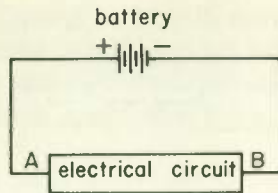
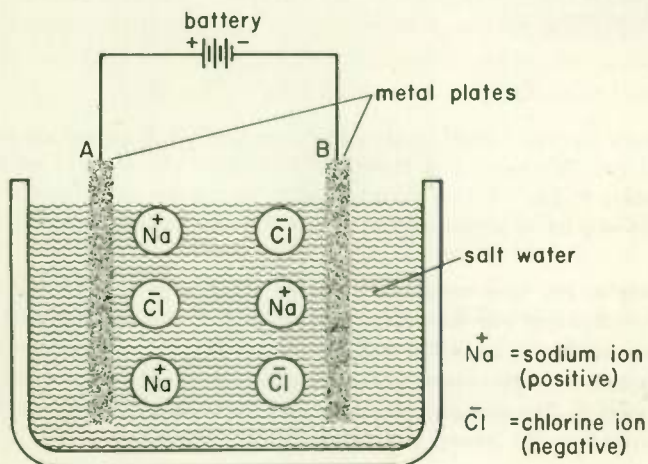

Fig. 14
Fig. 15
- Figure 14 shows a battery furnishing current to an electrical circuit. Moving free electrons, or other negatively charged particles, that form the current in the electrical circuit will move (a) *(from A toward B)* *(from B toward A)* because the positive charge on the positive terminal of the battery will (b) *(attract)* *(repel)* the negatively charged particles, and the negative charge on the negative terminal (c) *(attracts)* *(repels)* the particles. If there are also positively charged particles making up part of the electric current, these particles will move from (d) *(A toward B)* *(B toward A)*. However, no matter which way the
2. Suppose that the electrical circuit of Fig. 14 consists of two metal plates in salt water, as shown in Fig. 15. Since salt water is a good conductor, current flows when connected to the battery as shown. The charged particles that make up the current in the salt water consists of positively and negatively charged ions in equal numbers. The positively charged sodium ions (Na) will move (a) toward plate B. The negatively charged chlorine ions (Cl) will move (b) toward plate A. The current direction as used in this course is (c) (from plate A through the salt water to B) (from plate B through the salt water to A). If you were talking to a college-trained engineer, he would probably tell you that the current direction is (d) (from plate A to plate B) (from plate B to plate A), and this direction is called the (e) CONVENTIONAL current direction.